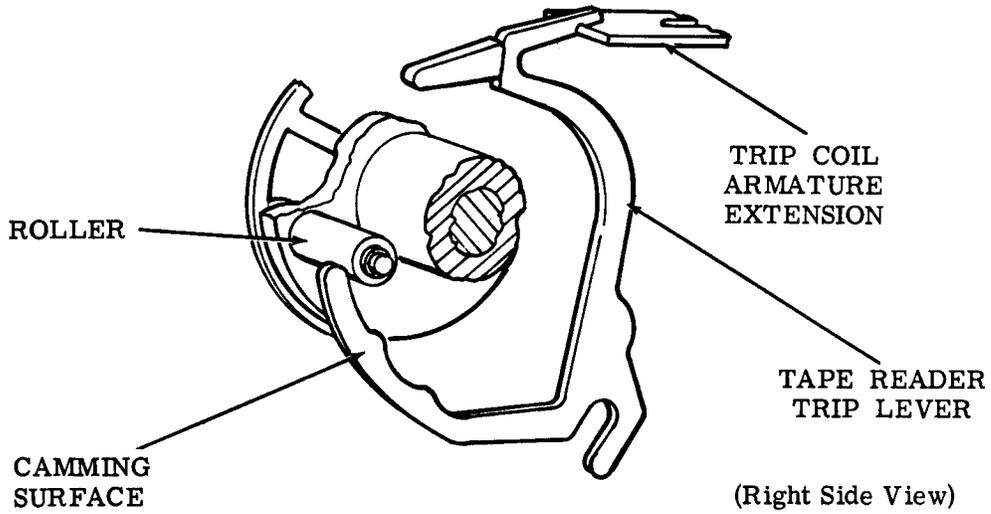

Figure 10 - Tape Reader Trip Lever
3.14 Near the beginning of the stop pulse the camming surface on the reader trip lever rides the camming roller on the distributor shaft and overtravels the trip coil armature (Figure 10).